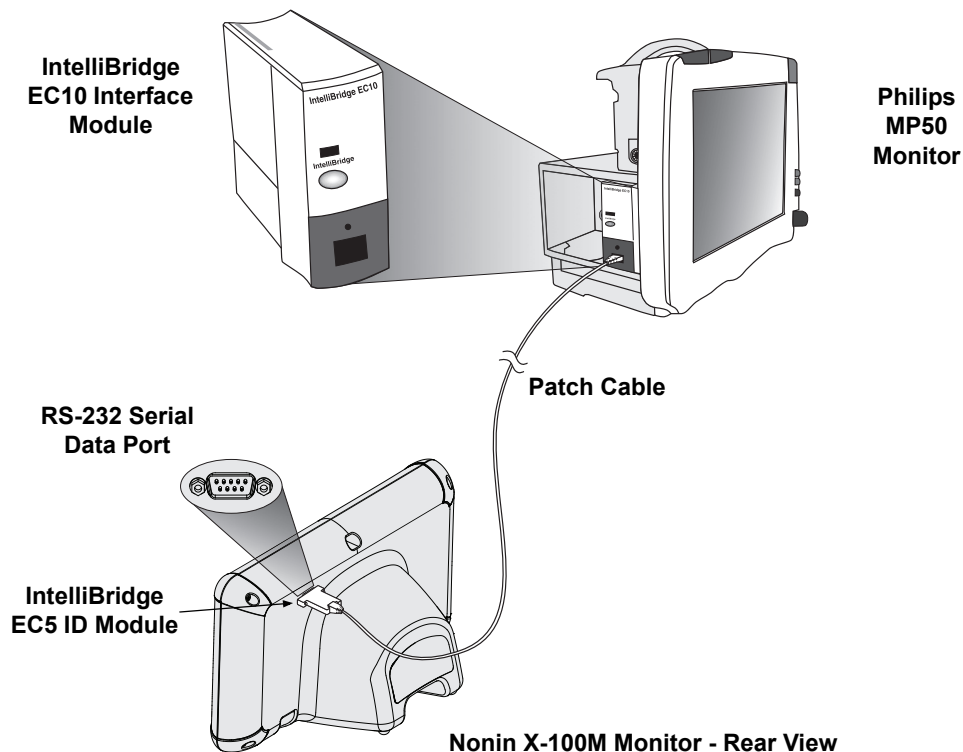

Figure 34. X-100M Connection to Philips Monitor with IntelliBridge
3. Connect the IntelliBridge patch cable to the EC10 Interface Module (see figure 34).